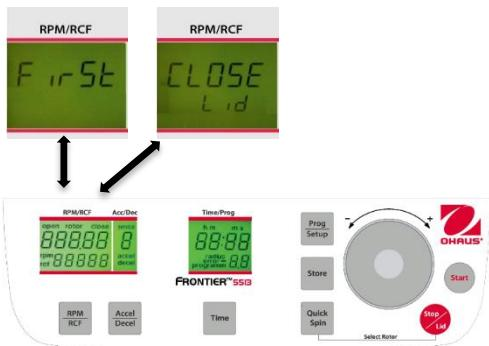
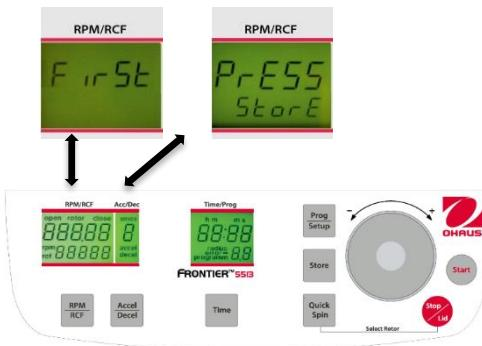

Figure. 21
Figure. 22
Close the lid of the centrifuge. Now proceed as described previously to set all important run parameters. If the lid isn't closed when storing the program, in the display "RPM/RCF" (A-1), the words "FirSt" and "CLOSE Lid" (See figure 21) flashes alternately. If you want to start the run without storing the program, in the display "RPM/RCF" (A-1), the words "FirSt" and "PrESS StoRE" (See figure 22) flashes alternately.
For adaption of data press the key "**Store**" (2) (refer to figures 21 and 22) for approx. 1 second. If the program is stored correctly, the word "**StorE**" appears in the display "**RPM/RCF**" (A-1). As a result, the word "**programm**" (M10) disappears.